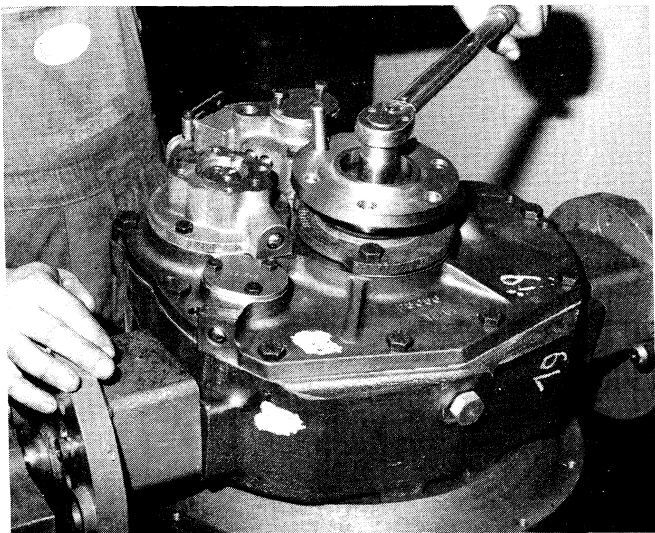

Figure 6-5. Removing Output Flange.
13. Remove the hex-head capscrew (Figure 12-2, 28) and the retainer washer (27) that secure the output flange (25) on the output shaft (18). See Figure 6-5. Some ratios have three capscrews on the output shaft. Use a standard gear puller and remove the output flange (Figure 12-2, 25) from the output shaft (18). Remove the lathe cut ring (26) from the output flange (25). Discard the seal ring.